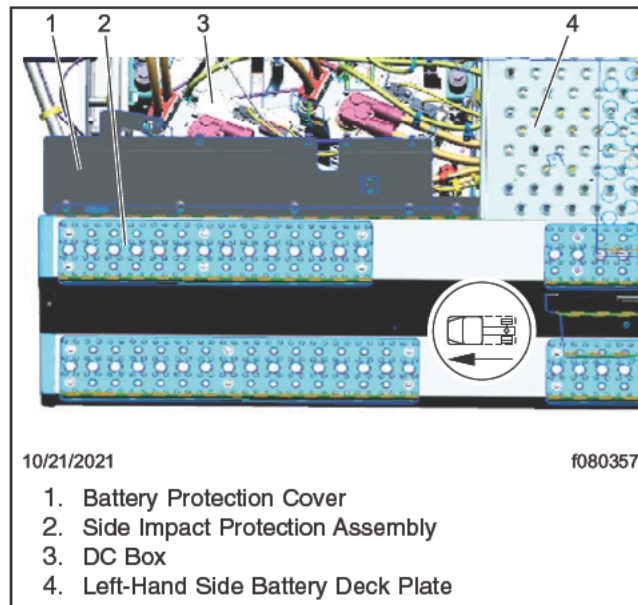

Fig. 17, Removal of Battery Protection Cover
4. Remove the left-hand side battery deck plate. See **Fig. 17**. For instructions, see **Section 31.05** of the *eCascadia Workshop Manual*.
5. Remove the left-hand side battery protection cover that is attached to the side impact protection assembly. See **Fig. 17**.